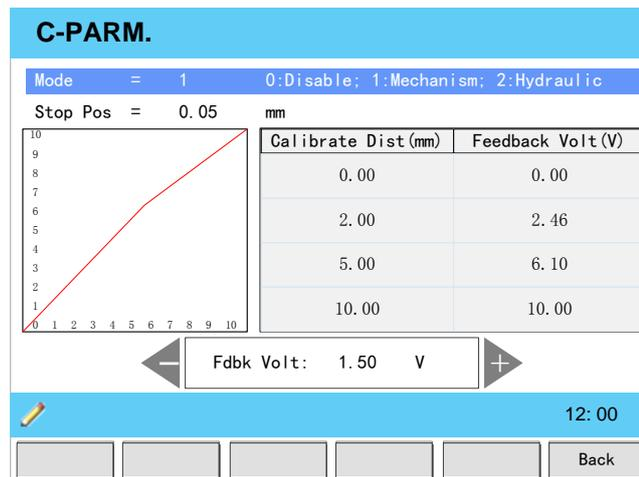

Figure 3-13 Set the mode to mechanism
- Step 2 Set the parameter **Mode** to **1: Mechanism**, as shown in Figure 3-13.